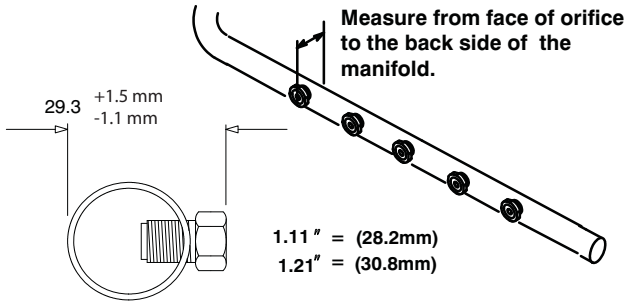

Fig. 3 - Changing Orifices
- Tighten the orifices so they are seated and gas tight about 1-1/8" (28.6 mm) from the face of the orifice to the back of the manifold pipe (Fig. 3). Make sure orifice is installed straight so that it forms a right angle (90°) to the manifold.